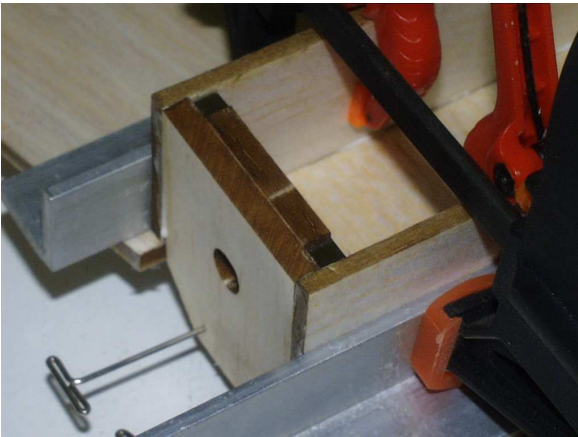

Figure 4.5: Sides and magnet holder glued
- Glue in magnet holder that was prepared earlier (Figure 4.5)